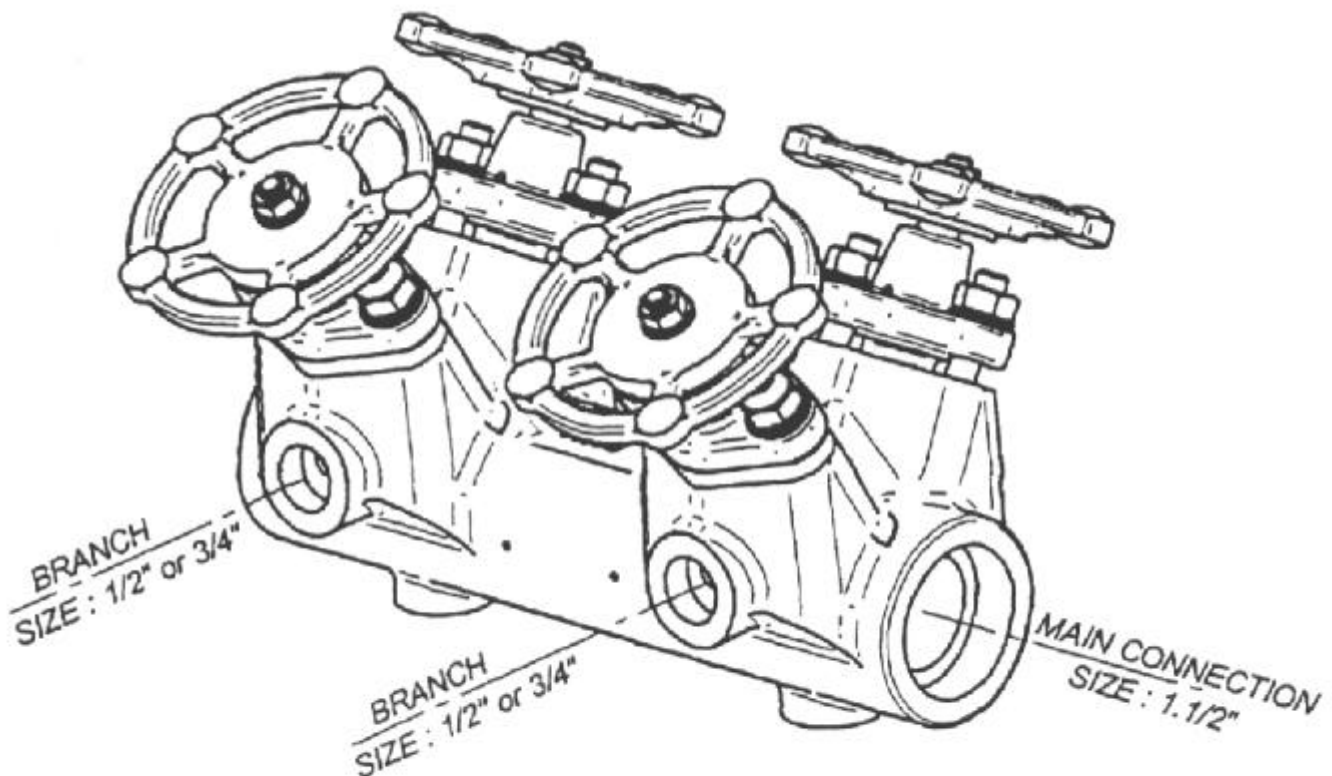

Fig. 4
- Branch : size ½" or ¾" (SW ANSI B16.11 or NPT ANSI B1.20.1) connections both for steam distribution and condensate collection. (see fig. 4).